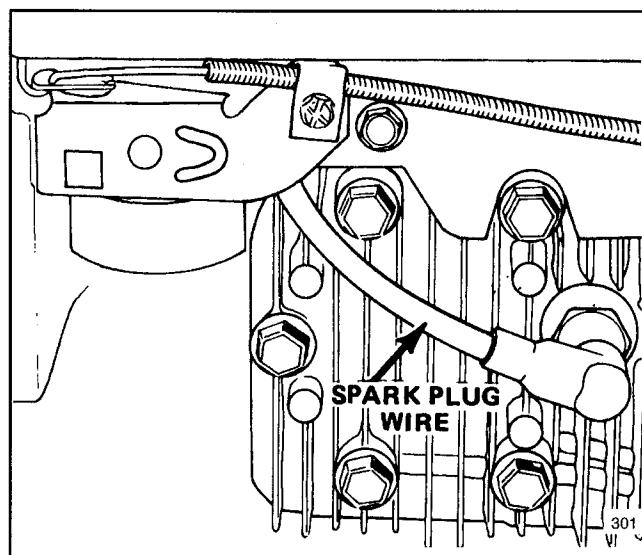

Figure 11
1. Stop the engine and pull the wire off the spark plug (Fig. 11).
1. Stop engine and pull wire off spark plug (Fig. 11).
- Stop engine and pull wire off spark plug (Fig. 11).